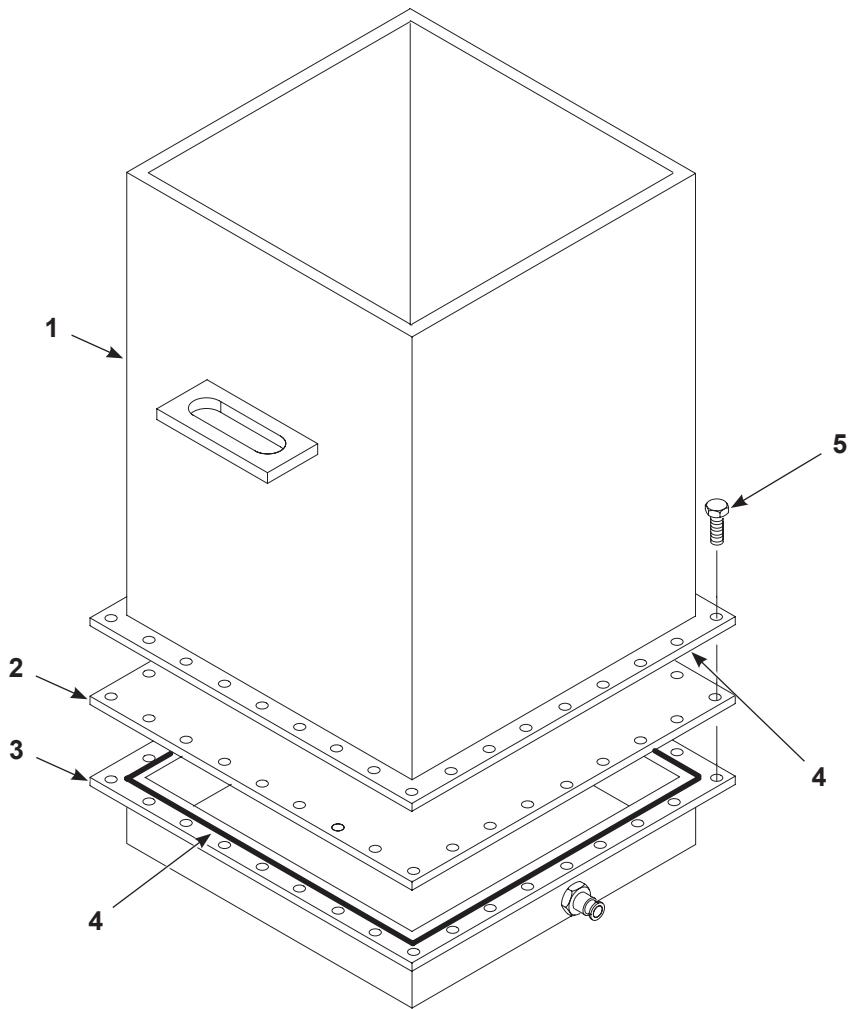

Figure 8-13 50-lb Feed Hopper Fluidizing Plate Replacement
2. See Figure 8-13. Remove the screws (5) securing the body (1) to the plenum (3). Lift the body off the plenum.
3. Remove and discard the old fluidizing plate (2).
5. Check the O-ring gaskets (4) on the body and plenum flanges and make sure they are securely installed in the flange grooves.